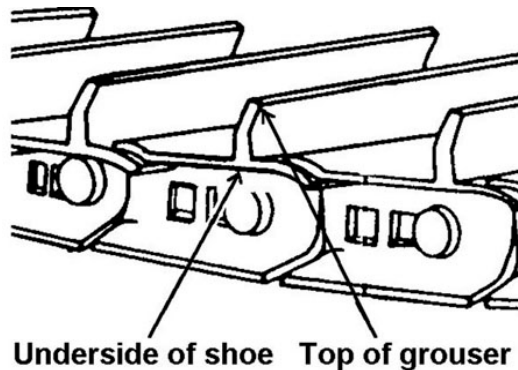

Figure 1-61. Measuring grouser height.
1. Measure the grouser height from the underside of the shoe to the top of the grouser (fig. 1-61).